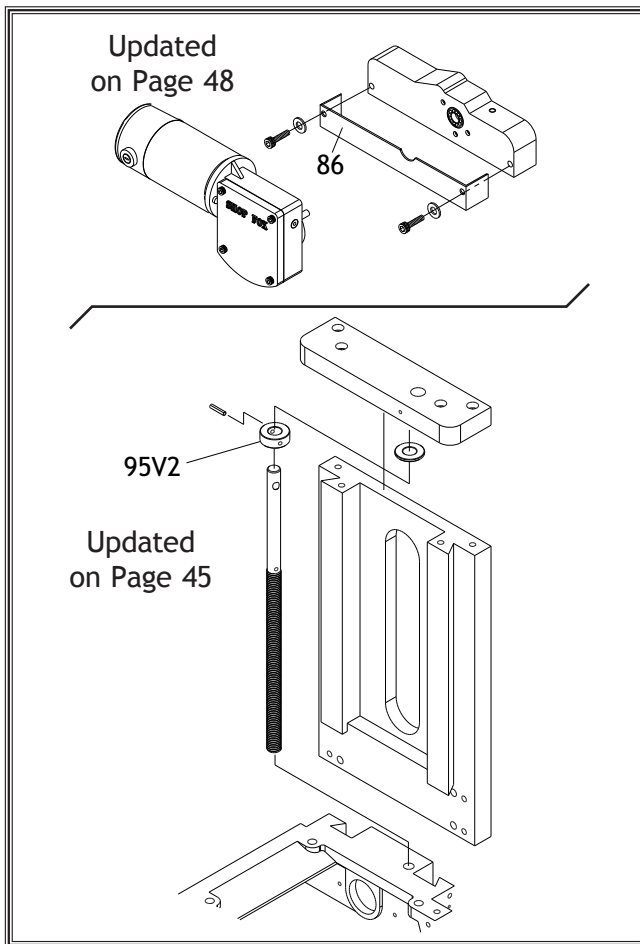

Figure 1. W1812 chain guard and collar.
We have added a series of parts to the Model W1812. For increased machine safety, we added a chain guard shown as item 86 in Figure 1. For increased leadscrew stability, we added the collar shown as item 95V2.